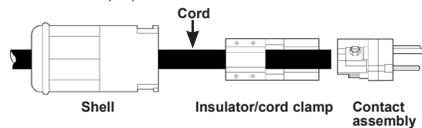

Figure 2
- Slide shell onto cord. Loosen four (4) cord clamp screws and slide insulator onto cord (see Figure 2). Move shell and insulator up the cord and away from cord end so you can freely work on the cord end and prepare the conductors for termination.